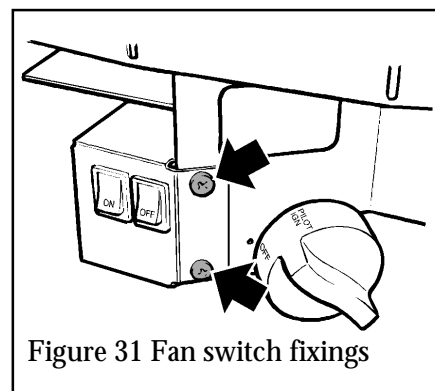

Figure 31 Fan switch fixings
13.5.6 To gain access to the pilot pipe connection, detach the fan switch bracket from the burner control bracket by removing two screws (see figure 31).
13.8.1 Detach the fan switch bracket from the burner control bracket by removing two screws (see figure 31). Carefully pull clear of the burner unit.